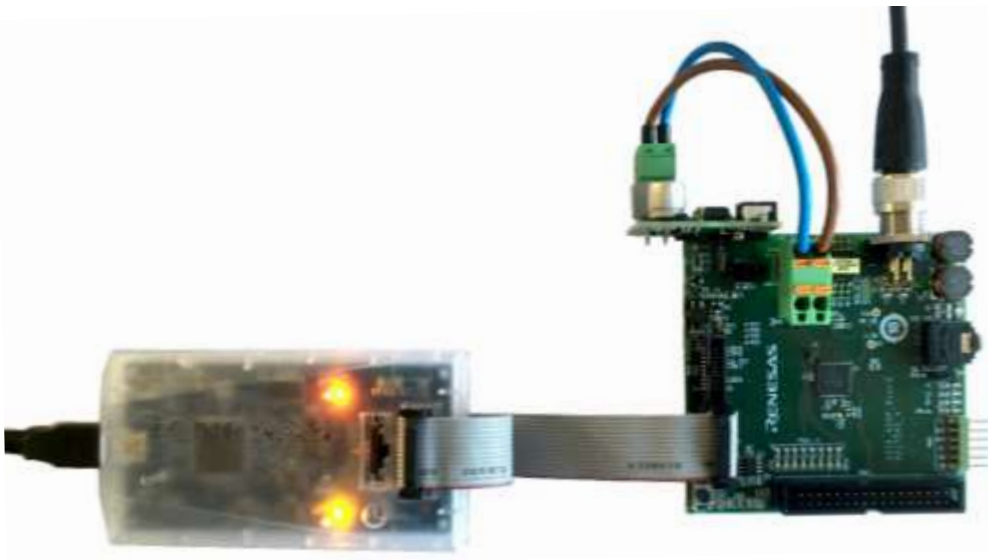

Figure 7. E2 Lite Probe Connection To Y-ASI4U-V5-DB
4. Connect the Y-ASI4U-V5-DB to the ASi network to power the ASi-5 Slave (refer to Figure 7).